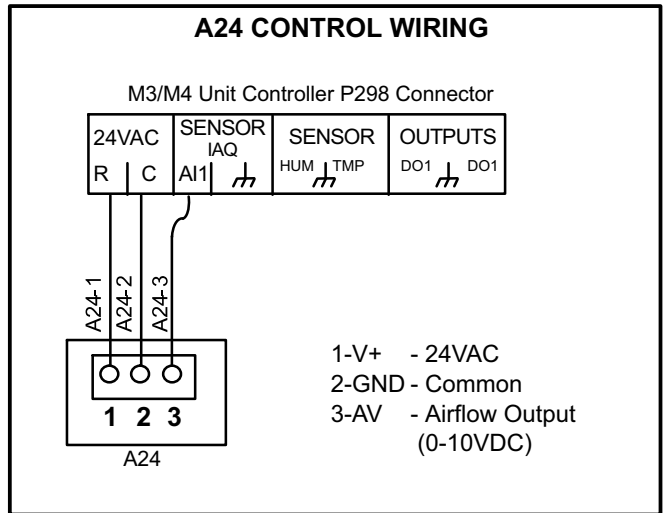

FIGURE 6
- 1- Remove the A24 cover and connect the field-provided cable as shown in figure 6.